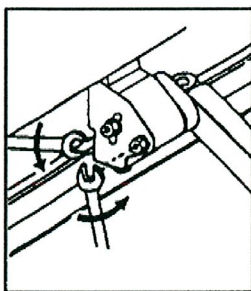
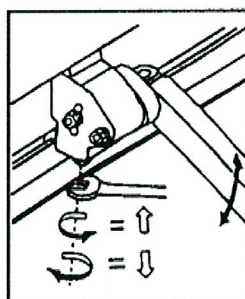
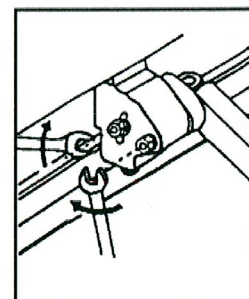

Figure 2a
Figure 2b
Figure 2c
2. At the selected turn, loosen the (2) Locknuts located at the side of the upper arm connection using a 19mm (3/4") Open End Wrench.
4. Tighten the (2) locknuts located on the side of the arm connection.
**PITCH ANGLE:** The awning comes factory pre-set with a pitch angle of approximately 20°. This represents the minimum angle recommended for proper rain run-off. If it is desired to increase this angle, loosen the two (2) lock nuts located on the outside upper joint of each arm using a 3/4" or 19 mm wrench (see fig. 2a). Adjust the arms downward by rotating the bolt head at the bottom of the arm connection in a counter clockwise direction (looking from the bottom up) (see fig. 2b). Likewise, rotating the bolt in a clockwise direction will raise the arm. After all arms are adjusted to an equal height, re-tighten lock nuts on the side of each arm (see fig. 2c).